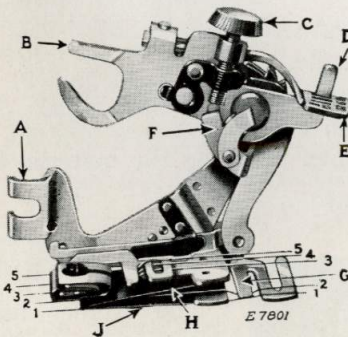
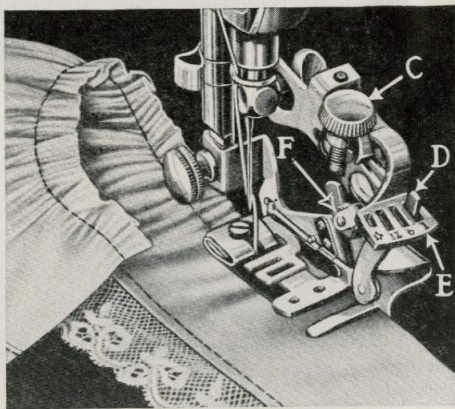
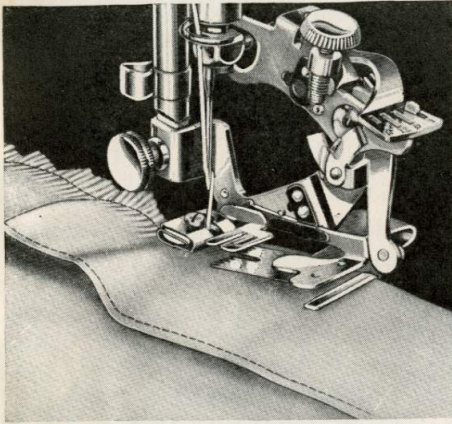
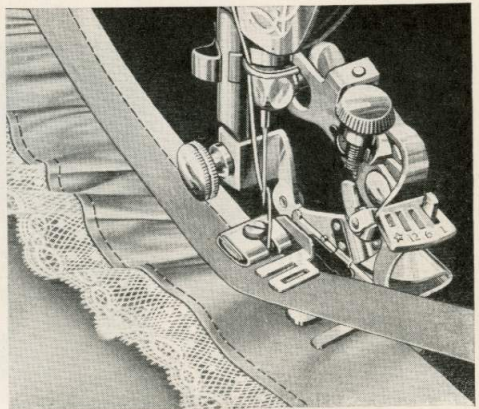

FIG. 58. THE RUFFLER AND ITS PARTS
FIG. 60. MAKING A PLAIN GATHER
FIG. 61. MAKING A RUFFLE AND SEWING IT TO THE GARMENT
FIG. 62. ADDING A FACING AS THE RUFFLE IS MADE
It is necessary to become familiar with the Ruffler before it can be used successfully. Select the Ruffler from the set of attachments and compare it with Fig. 58. Note the names and uses of the principal parts, as follows:
NOTE: If the Ruffler with your machine is not exactly like Fig. 58, you will find the working parts quite similar. Any difference in the adjustments will be found explained in the instruction book. The 66-1 Singer machine has an entirely different type of foot from other Singer models and it is well to compare
Lines 1, 2, 3, 4 and 5 (Fig. 58) indicate where the material is to be placed for various operations, as follows:
The adjusting finger (F, Fig. 60) is not intended for gathering and should be moved forward or away from the needle, as shown in Fig. 60.
Raise the adjusting lever (E, Fig. 60) and move it to the left so that the projection (D, Fig. 60) will enter the slot marked "1" in the adjusting lever (E) when the lever is released. The Ruffling Blade will then move forward and back once at every stitch. Insert the material to be ruffled between the two blue blades, following the line 2 in Fig. 58. Draw the material slightly back of the needle, lower the presser bar and commence to sew.
To make fine gathering, shorten the stroke of the ruffling blade by turning the adjusting screw (C, Fig. 60) upwardly, also shorten the stitch. To make full gathering, lengthen the stroke of the ruffling blade by turning the adjusting screw (C) downwardly, also lengthen the stitch. By varying these adjustments, many pleasing varieties of work can be accomplished.
Insert the material in the Ruffler between the two blue blades following line 2, Fig. 58. Pull the edge of the material to be gathered forward until it is slightly past the needle, lower the presser bar and sew. See Fig. 60. The fullness of the ruffle is determined by the position of the adjusting screw. To **decrease** the fullness turn the screw **up**. To **increase** the fullness turn the screw **down**.
After having tested and adjusted the Ruffler for fullness, place the material for the ruffle in the Ruffler between the two blue blades and insert the garment to which it is to be attached under the separator blade following line 1, Fig. 58. Proceed as for plain gathering, guiding the material lightly so that it will not feed away from the heading guide. See Fig. 61.
First insert the material for the ruffle in the Ruffler between the two blades and the garment under the separator blade, as directed for sewing the ruffle to the garment in one operation. Place the material for the facing in the Ruffler, following line 3, Fig. 58. The facing may be straight or bias material. If the facing is to be on the right side of the garment, place the garment and the ruffle so that the wrong sides are together. If the facing is to be on the wrong side, place the right sides of the garment and the ruffle together. See Fig. 62.
If the heading on the ruffle is to be more than one-quarter of an inch wide, do not place the material in the guide when following line 2 (Fig. 58) but place the edge of the ruffle between the blades and to the right of the needle the desired amount, up to one inch, and guide it as the machine sews.